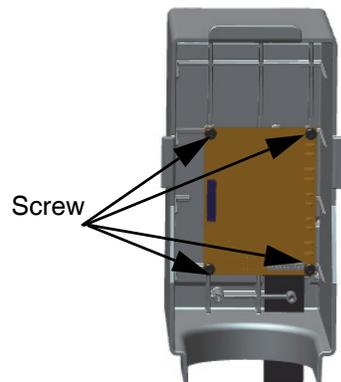

Figure 54.
- Unscrew four screw from PCB as shown in Figure 54.